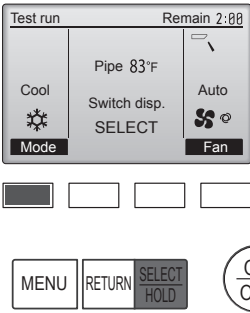

Fig. 6-5
- ① Press the [F1] button to go through the operation modes in the order of "Cool" and "Heat". (Fig. 6-5)
- ② Press the [SELECT/HOLD] button and open the Vane setting screen.